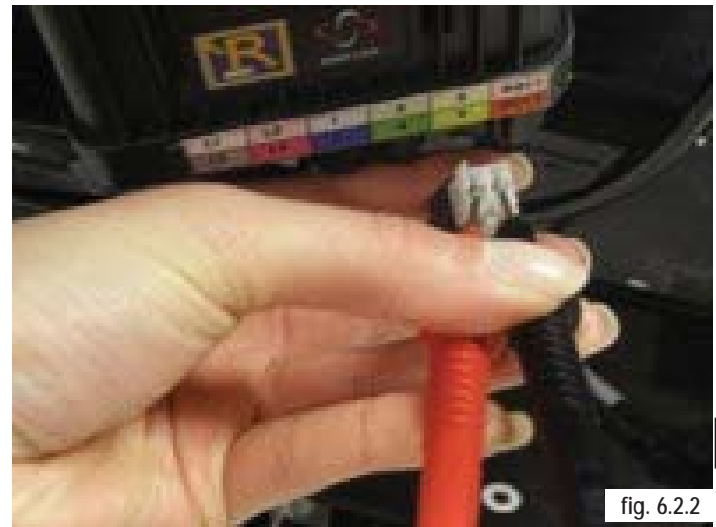

fig. 6.2.2
3. Check the recline potentiometer resistance at the Inhibit 4 harness as shown. (fig 6.2.2)